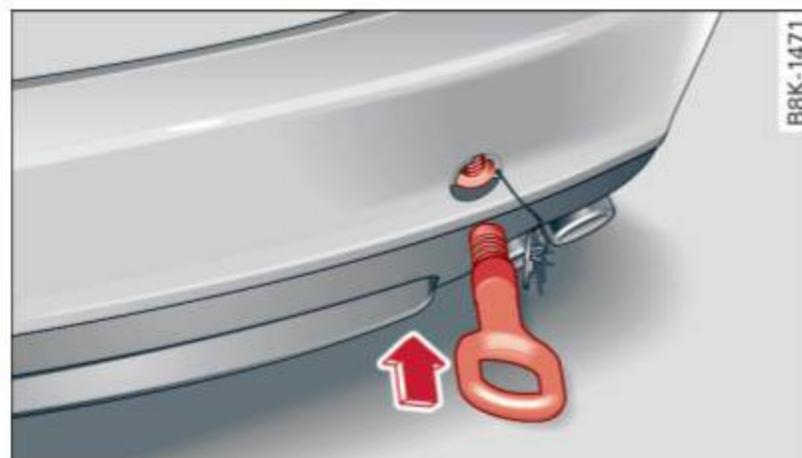

Fig. 217 Rear bumper: Screwing in towing loop
- ▶ Press the cover in by applying short strong pressure to the bottom part to release it from the bumper ⇒ *fig. 217*.